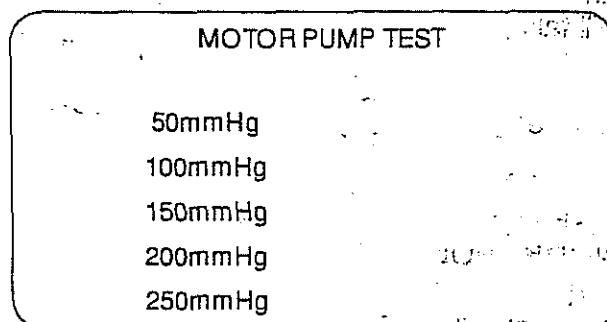

FIGURE 4-10a
1. Select the Motor Pump Test option. Selecting this option causes the LCD panel to display a menu listing the pressure selections for the test as shown in figure 4-10a.